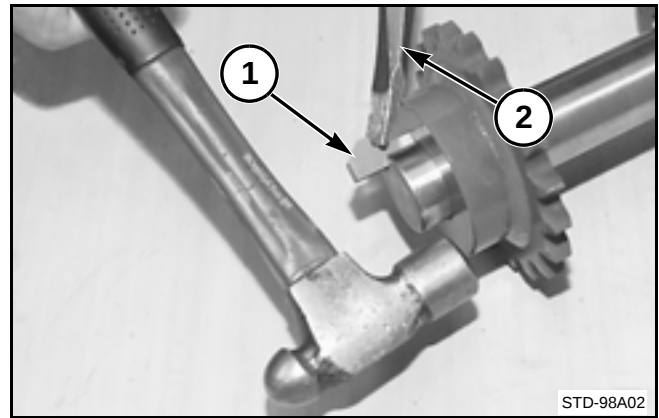

FIG. 34
FIG. 34: Gib keys (1) are tapered keys with a tang on the thick end. A gib key is both a locking component and hub retainer. The hub must have a tapered key way that fits the gib key. The gib key will lock the hub in position. No other locking component such as a set screw is needed.